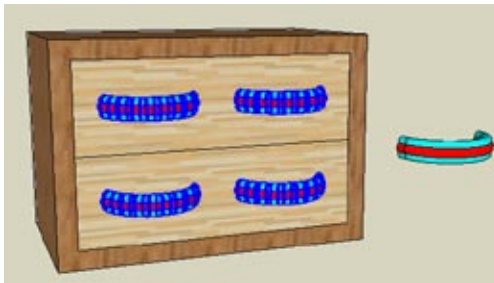

Figure 3-47
3. Explode and intersect the handles in the cabinet but leave intact the component off to the side (Figure 3-47).